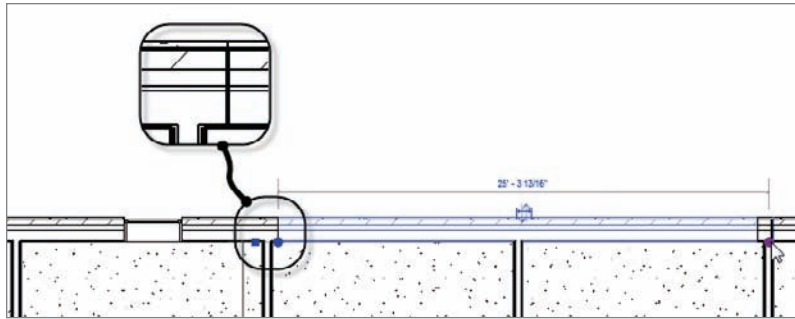

FIGURE 21.14 Cleaning the join in the existing plan
16. Select the middle wall, and grip-edit the walls back to the abutment, as shown in Figure 21.14.